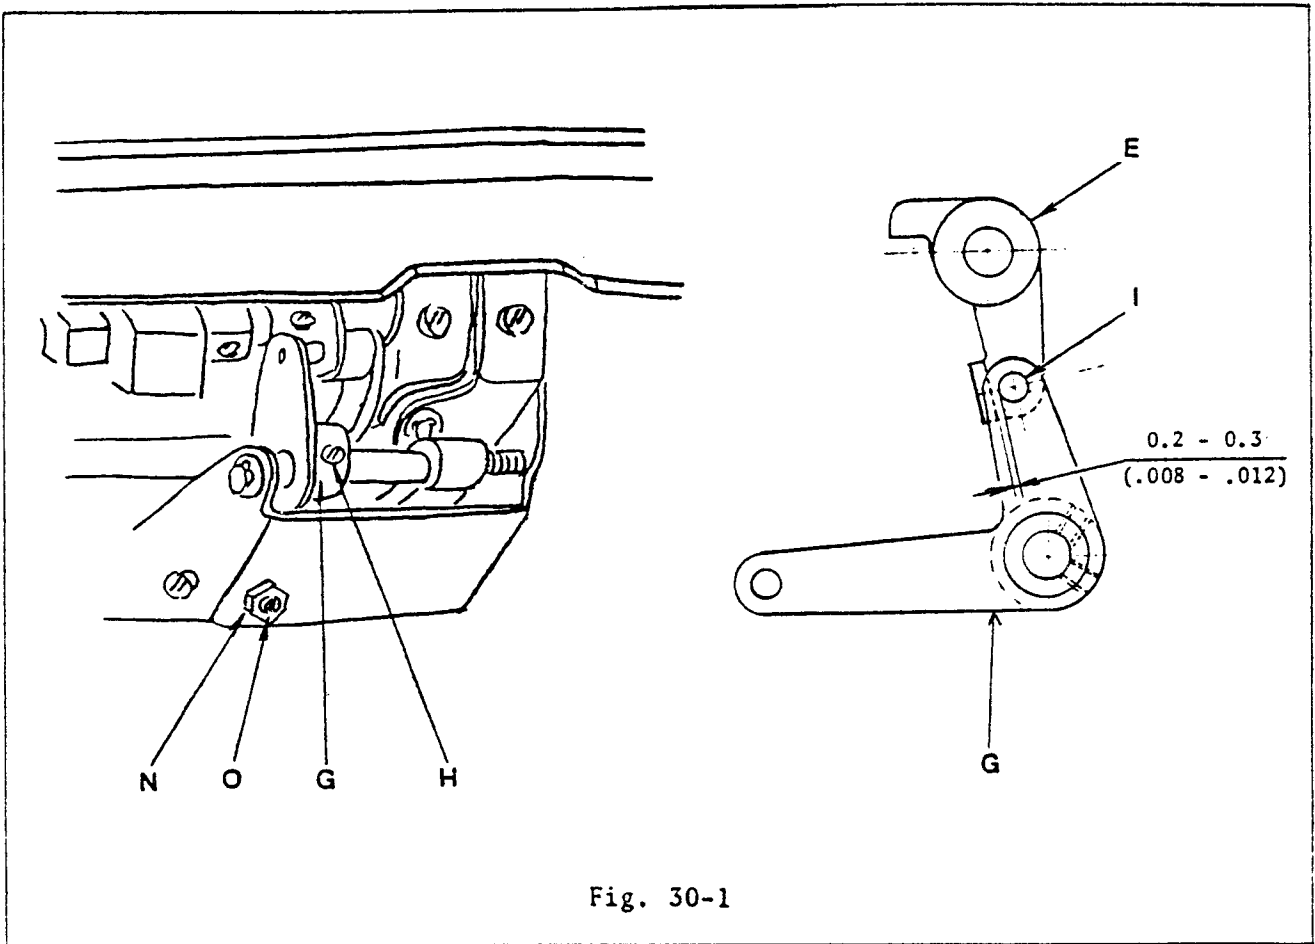

Fig. 30-1
2. Depress reverse feed button and loosen one set screw (H) holding the reverse feed crank (G); then release reverse feed button and loosen second set screw (H). (Fig. 30-1).
3. Set clearance between feed regulator shaft crank (E) and reverse feed crank pin (I) to 0.2 - 0.3 mm (.008 - .012).
4. Tighten both set screws (H).
2. Loosen lock nut (N) and turn reverse feed crank stopper screw (O) as required to achieve ten stitches per inch in reverse, then tighten lock nut (N). (Fig. 30-1).